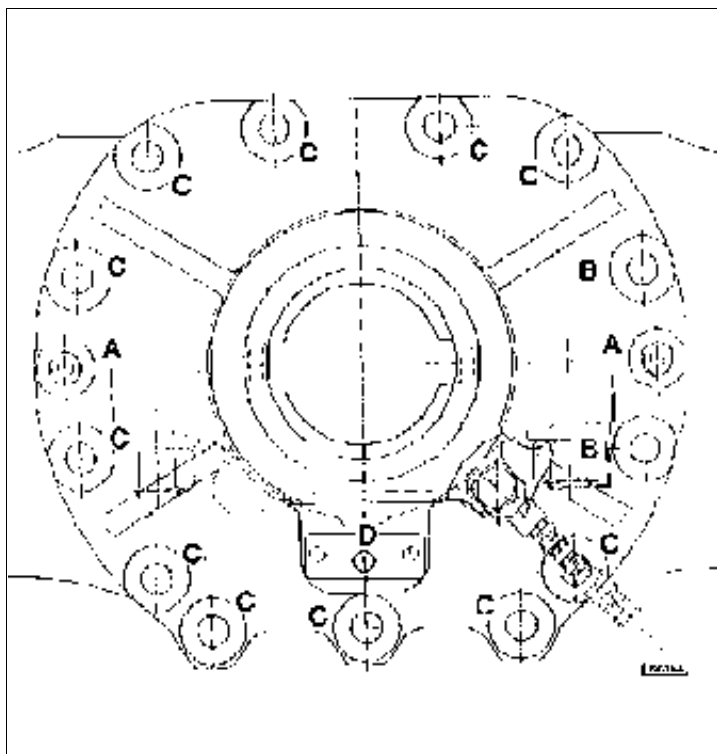

Fig. 6 - Installing the differential in the axle.
- Apply Loctite 272 to the threads of the 2 studs at **A**, p/n 2.1699.434.0 (fig 6).
- Apply Loctite 270 to the threads of the 2 bolts at **B**, p/n 2.0113.413.2 (fig 6).